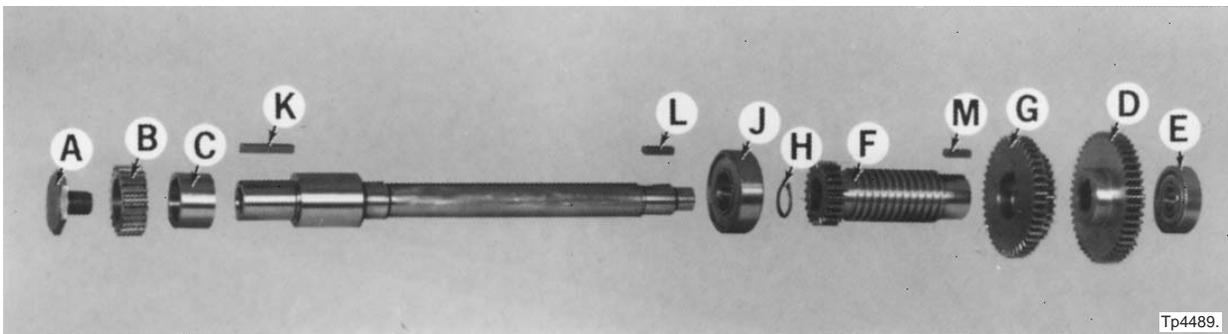

Figure 4.33 - Change Shaft Assembly
Gears "G", Figure 4.33, are pinned together.
- a) Remove stud "A", Figure 4.33, gear "B", and spacer "C".
Gears “G”, Figure 4.33, are pinned together.
- a) If removed, replace keys “K”, “L”, “M”, Figure 4.33, and the key located in the inside diameter of worm “F”.